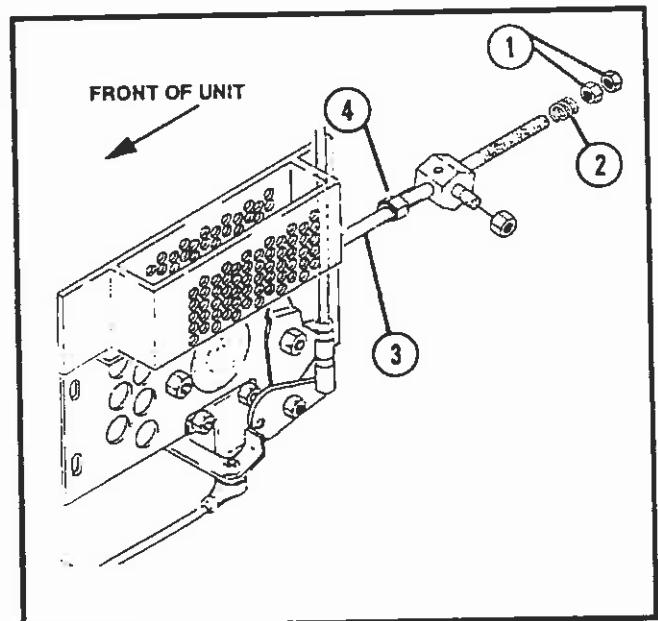

FIGURE 11
Set the spacing control lever at the 2 1/2" mark. With the drive belt removed, aerator head fully lowered, and the throttle at full speed (3600 ± 75 R.P.M.), place a slow speed tachometer against the threaded center of the hydraulic motor. Adjust the spacing control rod (Part No. 524160) until the hydraulic motor speed stabilizes at 28 ± 1 R.P.M. Use adjusting screw (Part No. 524453) to set position by screwing forward to decrease hole spacing (lengthening rod). Screw backward (shorten rod) to increase hole spacing. Lock the two (2) nuts (Part No. 306320) and override spring (Part No. 524083) into position so that the spring may compress 1/8" (3.2 mm) after adjustment is complete. Refer to Figure 11.